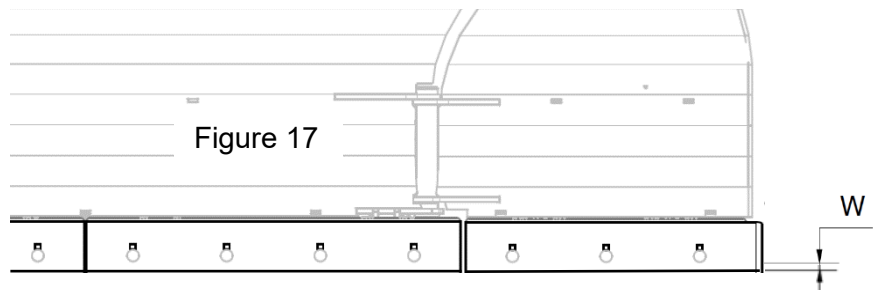
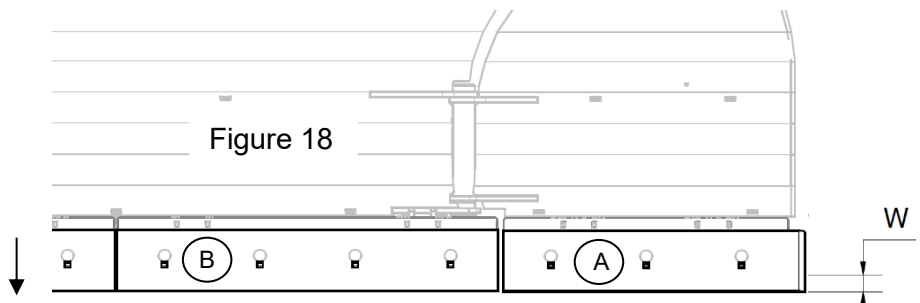

Figure 17
Figure 18
When the wear is significant and the distance $W \leq 10 \text{ mm}$ (see Figure 17), it is time to move all the cutting blades downwards (see Figure 18). When this position is also worn, the cutting blades (B) are turned or shifted (from left to right and vice versa); this applies to the cutting blades with bent ends (A). It is important that the cutting blades do not protrude downwards more than 60 mm, i.e. $W \text{ max.} = 60 \text{ mm}$.